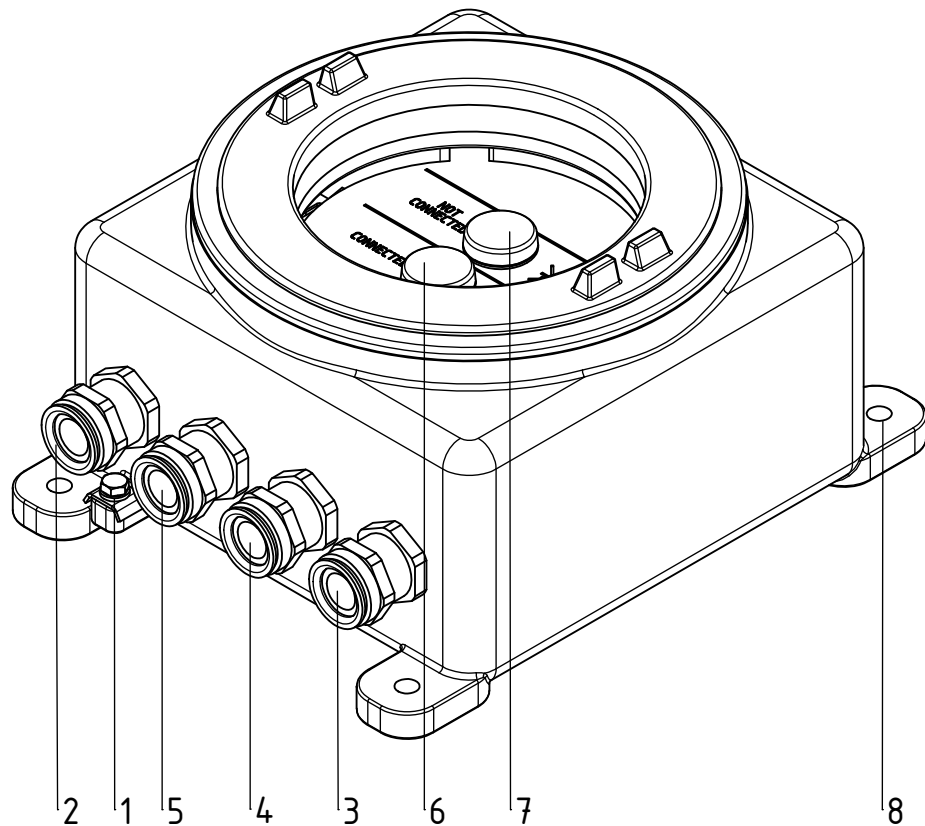

Fig. 3:
- The device must be connected to the equipotential bonding via the external ground connection (1, Fig. 3). In addition, the ground terminal inside the enclosure must be connected to a protective conductor or to a equipotential bonding conductor (see chapter 3.2 "Electrical installation", page 17).
The device must be connected to the equipotential bonding via the external ground connection (1, Fig. 3). In addition, the ground terminal inside the enclosure must be connected to a protective conductor or to a equipotential bonding conductor.